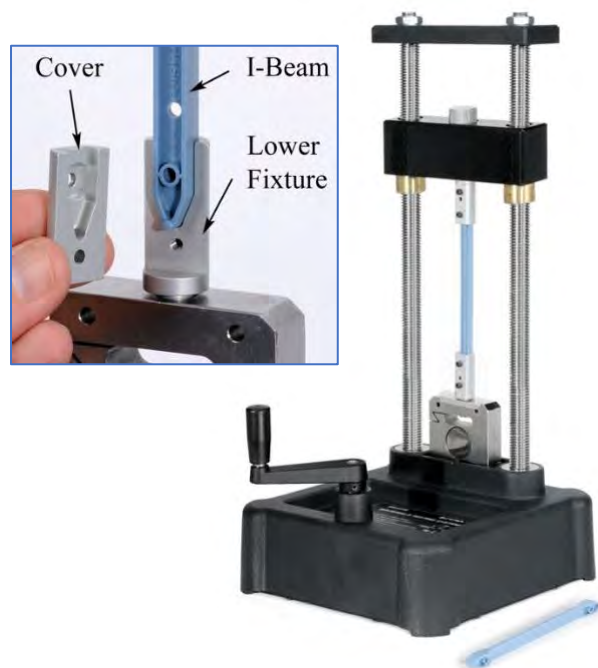
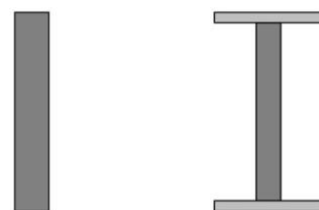

Figure 1: Tensile testing plastic beams
Figure 2: Cross-section of beams
A Tensile Test is performed on plastic beams as shown in Figure 1. Young's Modulus for the material is measured using the dimensions of the beam and the slope of the Force vs. Elongation graph. By testing beams with different cross-sectional shapes, the student investigates the effect (if any) of shape on the outcome of the experiment.
3. For both your beams (see Fig. 2), calculate the cross-sectional area. The beams were designed to have about the same area, so if the values are not close, check your calculations! Enter your values into the table.
4. Measure the effective length (L) of your beams. Note that "L" should only be the part of the beam that is actually stretching. For the rectangular (F4) beam, this would be only the thinner portion, not the thicker ends. The I-beam (T4) stretches mostly in the area between the two bolt holes. Enter your values into the table. What is the uncertainty in your measurement?
5. The ME-8242 Structures Beam Adapter consists of two major parts: The upper fixture with the longer thread sticks up through the cross-head and is held in place by the knurled cap nut. The lower fixture screws directly into the Load Cell as shown in the inset to Figure 1.